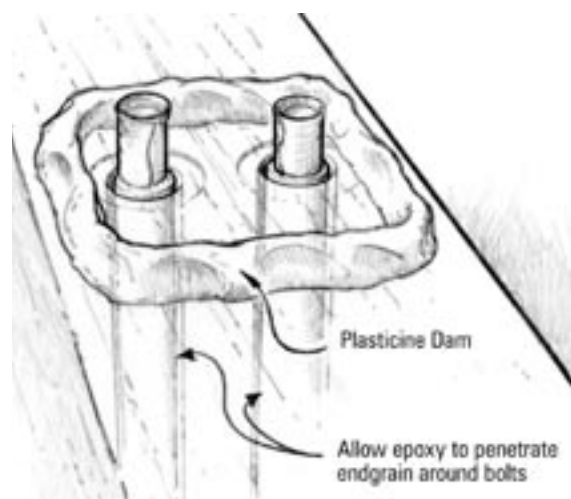

Figure 5-14 Build an epoxy reservoir around each keel bolt.
4. After blowing out the dust and shavings, wrap duct tape around the bolt threads and construct a 6mm high dam around the bolt hole with plasticine (*Figure 5-14*).